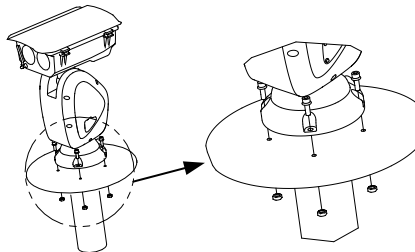

Figure 2-1 Fix the Position System
- 1) Fix the positioning system onto the bracket pedestal with the supplied M8*30 screws as shown in Figure 2-1.